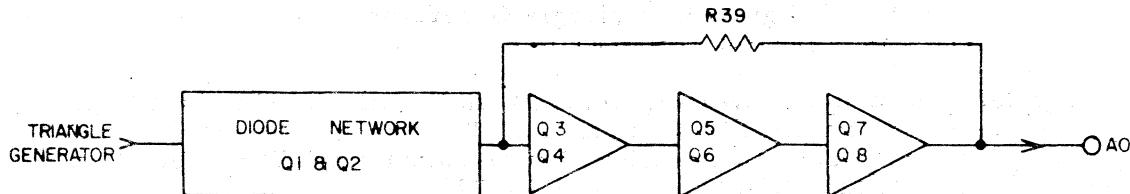

Figure 5. Sine Wave Shaper
**4.4 SINE WAVE SHAPER (See Figure 5)**